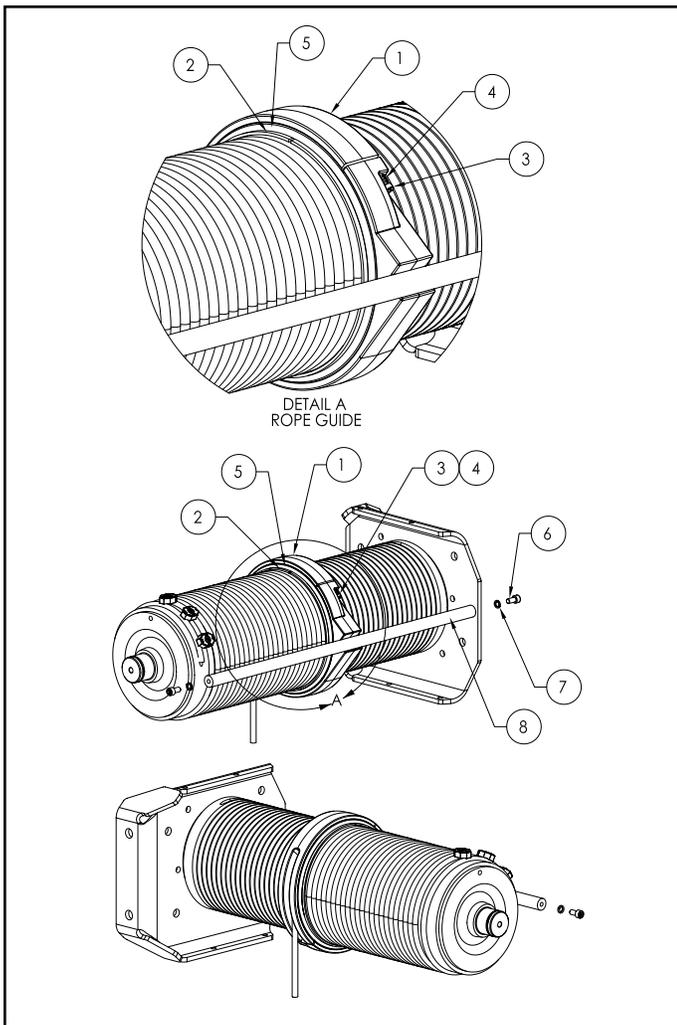

Figure 5-3a. Rope Guide Assembly
b) Disassembly for "B" & "C" Frames. Refer to Fig. 5-3a. For further assistance in locating components, refer to the parts list in Section IX.
- (1) Remove socket head cap screws and lock washers (Items 6 and 7). Remove drum frame rod (Item 8).
- (2) Remove shoulder bolts (Item 3) and compression springs (Item 4). The two halves of the rope guide body (Item 1) can now be pulled off the drum separately. When reassembling be sure that the half with the rope slot is on the top half of the drum.
- (1) Thread rope to drum from trolley frame side then secure with rope clamps as follows:
- (2) With all personnel clear of hoist - TURN ON POWER.
- (3) Operate hoist "UP" guiding six (6) wraps of new rope into drum grooves with gloved hand.
- (4) Re-install rope guide over rope in rope drum grooves as shown in Figures 5-3a & 5-3b. and outlined in Section V, Paragraph 5-5. Continue lubricating as rope is spooled onto the drum until about 28'-0" remain unwound.